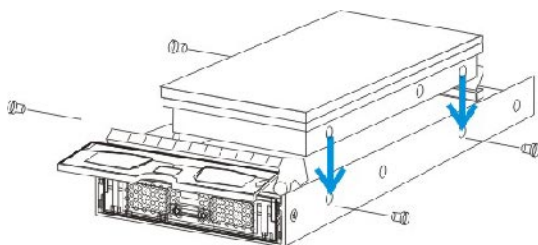

Figure 10: Inserting the PATA Drive
Step 6: Once the connectors from the MUX kit have been firmly attached to the hard drive, **place the hard drive into the drive tray** as shown in *Figure 10*.
Step 7: Adjust the drive's location until the mounting holes in the drive canister are aligned with those on the hard drive. Secure the drive with 4 supplied 6/32 flat-head screws. (See in *Figure 10*)